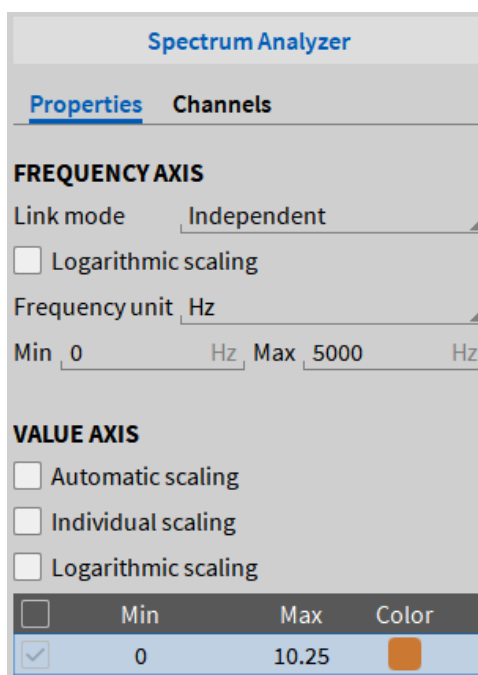

Fig. 8.52: Instrument Properties of the Spectrum Analyzer if Frequency Domain channels are assigned
- If frequency domain channels are assigned to the Spectrum Analyzer, the Instrument Properties are reduced to the Frequency axis and Value Axis settings (see Fig. 8.52). For details, refer to Additional instrument properties.